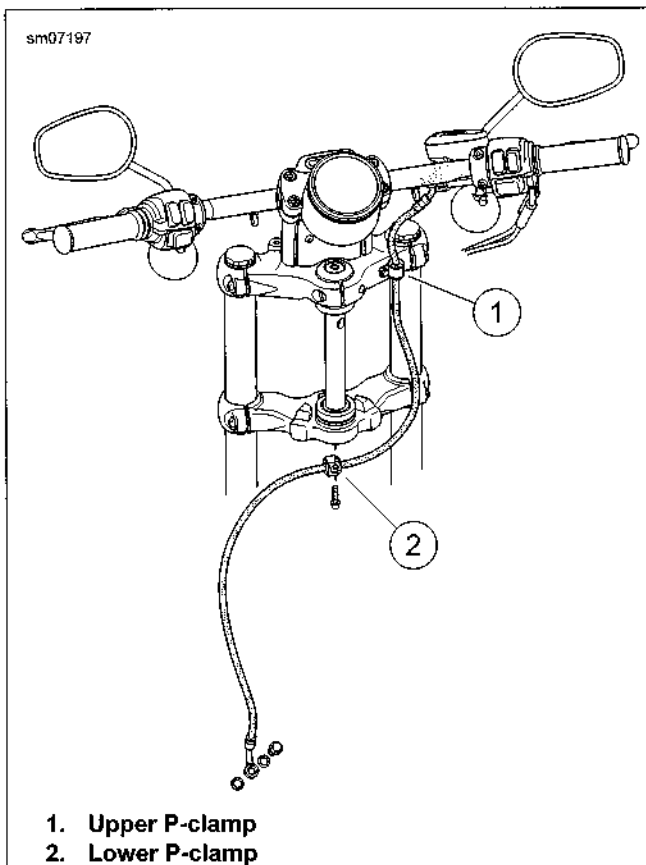

Figure 2-81. Brake Line Routing: XL 1200CP/CA w/ Drag Bar
1. See Figure 2-81. Fit upper and lower clamps to brake line grommets.